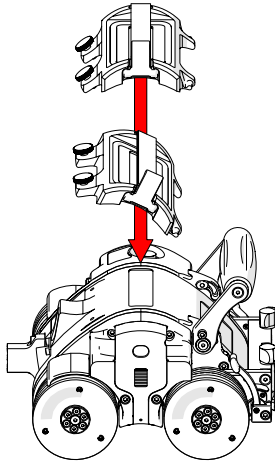

Fig. 82 - Angle backpack
1. Angle the backpack (Fig. 82) towards the notches found on the **SKOOT** (located near the base of the handle).